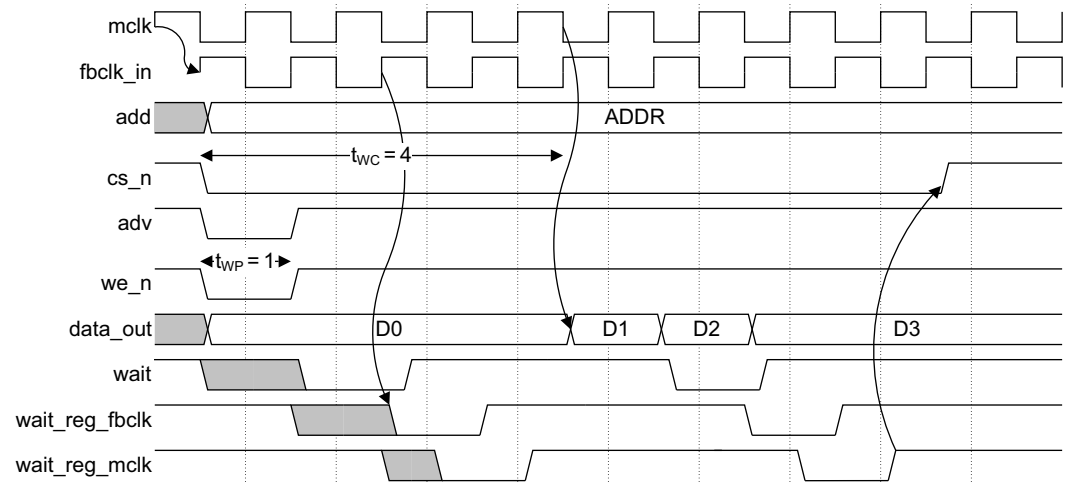
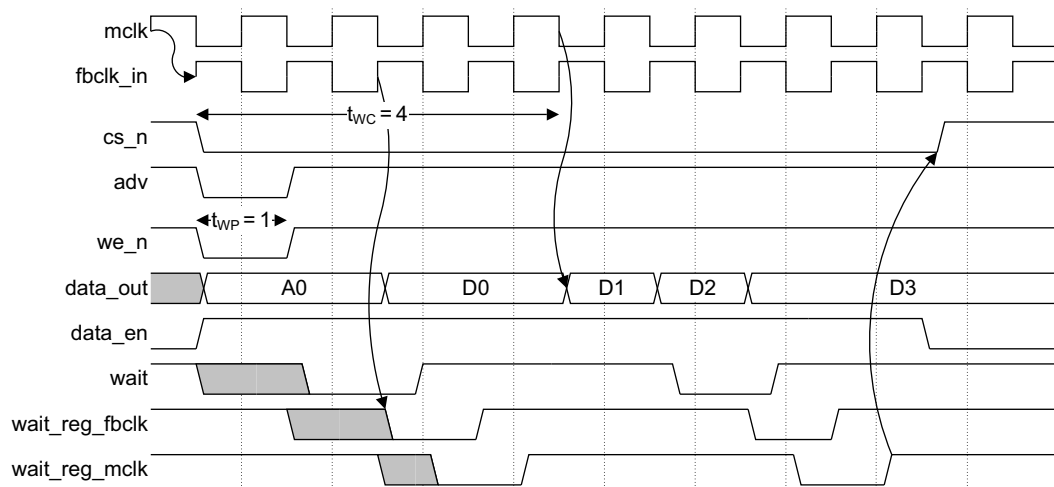

Figure 2-22 Synchronous burst write
Figure 2-23 Synchronous burst write in multiplexed mode
Figure 2-22 shows a synchronous burst write transfer that is delayed by the **wait** signal. You must configure the memory to assert **wait** one cycle early and with an active LOW priority. The **wait** signal is again registered with the fed-back clock and **mclk** before being used. The **wait** signal is used in the **mclk** domain to the memory interface FSM.
- You must set t_{WC} to a value that enables **wait_reg_mclk** to stabilize. See Figure 2-22.
Figure 2-23 on page 2-34 shows the same synchronous burst write as Figure 2-22, but in multiplexed mode.